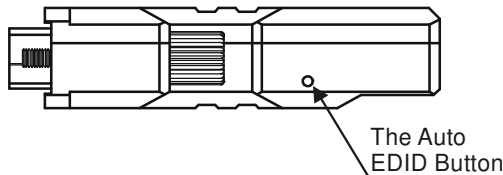

Figure 2: The Auto EDID Button on the 610T
2. Push the Auto EDID button (illustrated in Figure 2), using a thin screwdriver.